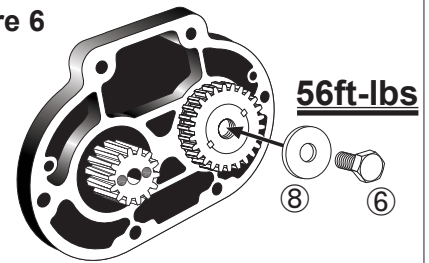

Figure 7
15. See Figure 7. Install the side cover gasket (Inner), Reverse gear housing, Two supplied dowel pins, side cover gasket (Outer).